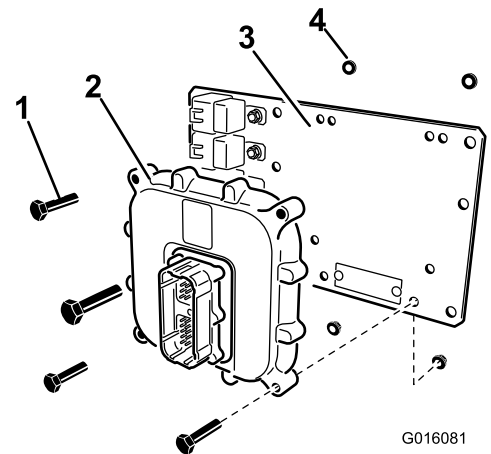

Figure 13
3. Secure the ECU to the mounting plate with 4 bolts (1/4 x 1-1/4 inch) and 4 locknuts (1/4 inch) as shown in Figure 13.